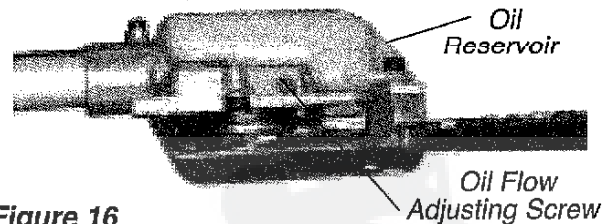

Figure 16
2. Place the unit on its side with the oil reservoir up. See Figure 16.